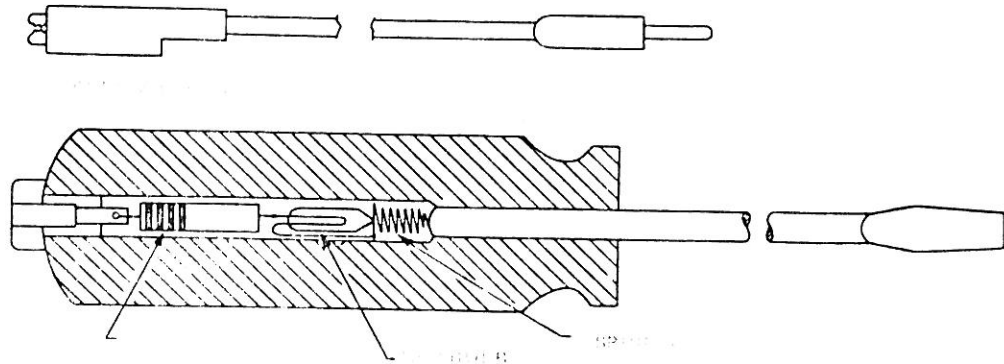

Fig. 18-48. Detail assembly drawing of the Test Light.
6. The leads of the resistor are cut and the resistor is soldered between the banana jack and the other lead of the NE2. See Fig. 18-48.